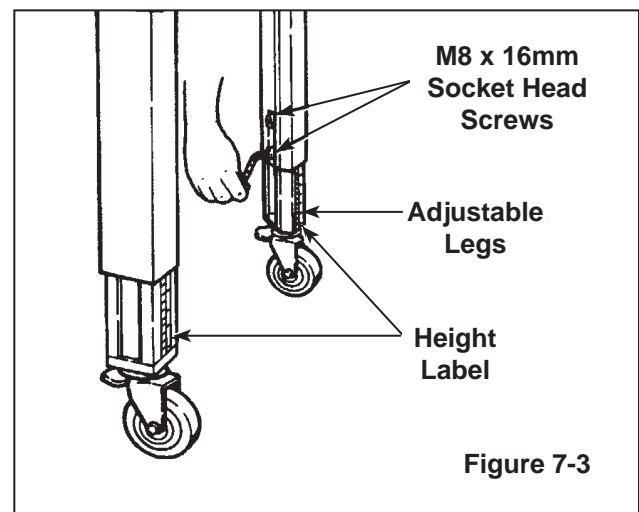

Figure 7-3
2. Using a 6mm hex key wrench, loosen, but do not remove, two (2) M8 x 16mm socket-head cap screws in one leg. Refer to **Figure 7-3**.
3. Using the height label as a guide, adjust the leg length to the desired conveyor bed height. Retighten the two (2) screws to secure the leg.